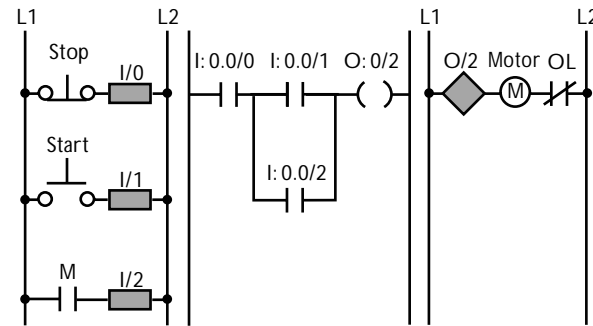

Figure 3-23. A star t/stop motor circuit with low-voltage release and low-voltage protection.
**Low-Voltage Protection.** To provide low-voltage protection in this circuit (see Figure 3-23), you must connect the auxiliary contact from the motor starter as a real input to the PLC at input terminal 2 (I:0.0/2). Then use an XIC contact to implement the auxiliary contact in the PLC. This replaces the internal contact used before. Now the motor is sealed after the start button is pushed because the auxiliary contact stays on as long as the motor starter's coil is on. Therefore, this circuit still provides low-voltage release, since the motor will turn off when the overload opens. However, it also provides low-voltage protection, since the auxiliary contact will turn off when the motor starter's coil turns off. This means that the motor will stay off even after the overload recloses. You must press the start button for the motor to turn on again.